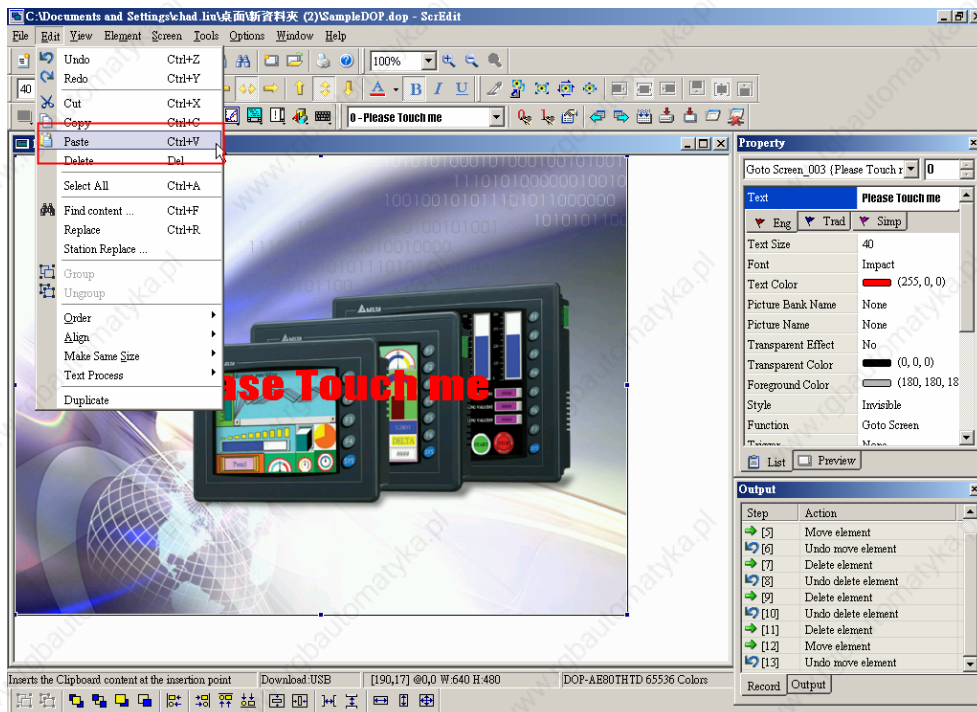
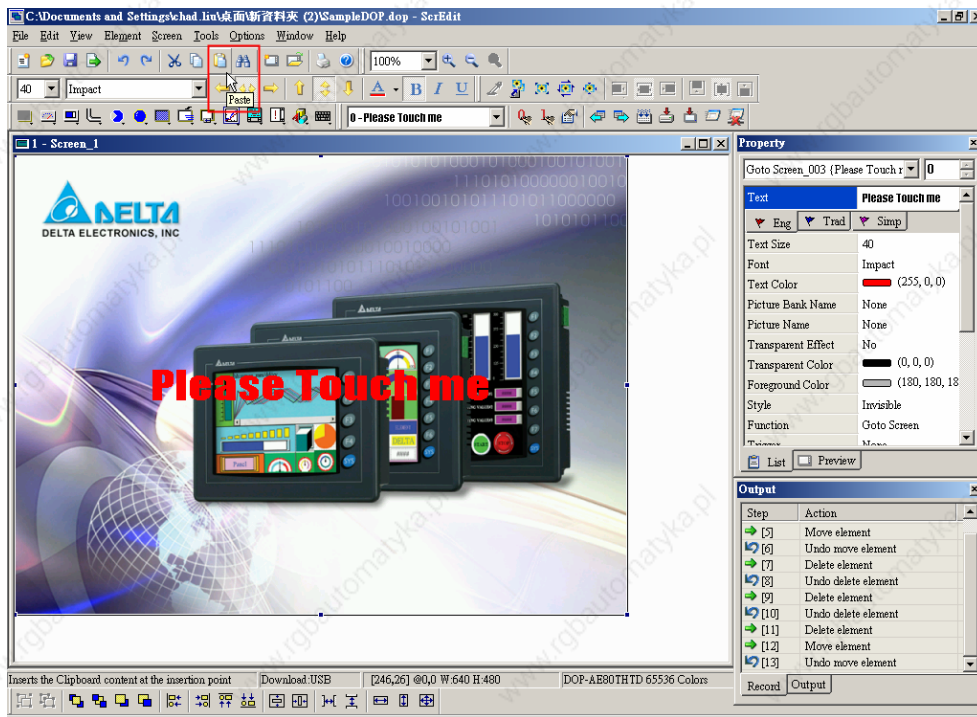

Fig. 2.4.10 Choosing Paste command from menu bar
Fig. 2.4.11 Choosing Paste icon from toolbar
**Paste** (Fig. 2.4.10) from menu bar or clicking the Paste icon  from toolbar (Fig.2.4.11), or use keyboard shortcuts by pressing **Ctrl + V**.